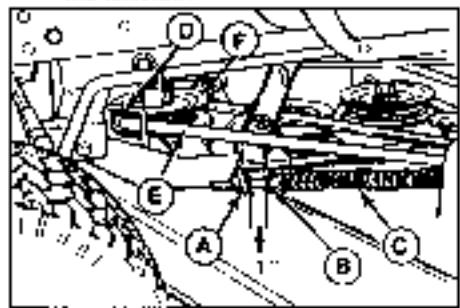
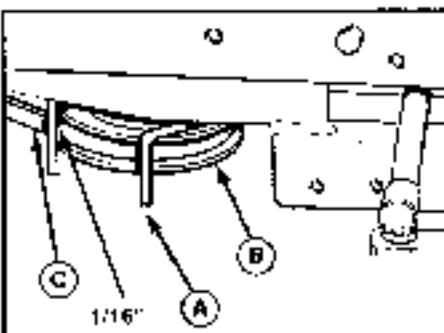

Figure 31. Mower Drive Belt Tension Adjustment - 42" & 48"
Figure 32. Right-Hand PTO Pulley Belt Stop
2. Measure the distance between the PTO rod guide (A, Figure 31) and the set collar (B). The distance should measure one inch. If not, proceed to step 3.
4. Loosen the setscrew in the set collar (B). Move the rod forward to increase gap, or backward to decrease gap. Retighten the setscrew.
There are two belt stops at the PTO pulley; one on the left (D, figure 31) and one on the right (A, figure 32). With the PTO lever engaged, measure the distance between the belt stop and belt. There should be $\frac{1}{2}$ inch (1.5 mm) clearance between each belt stop and the belt. To adjust a belt stop, loosen its mounting cap screw, move the belt stop, and retighten the cap screw. Recheck the measurement.